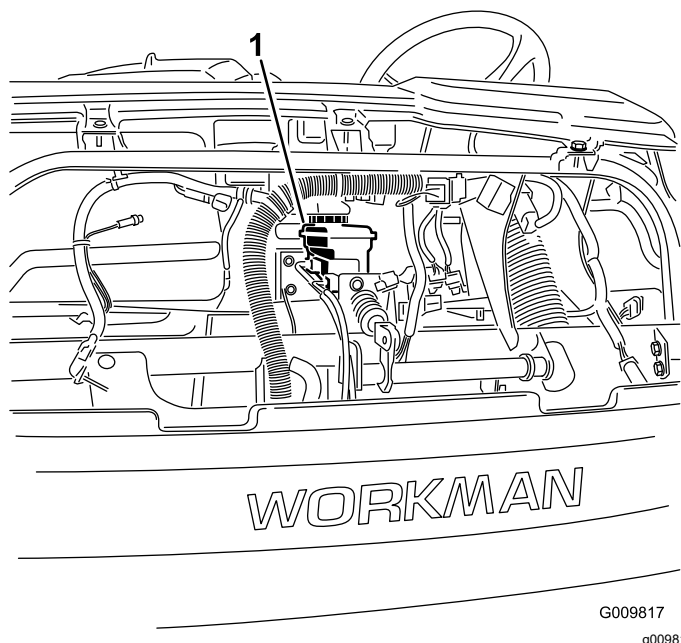

Figure 54
4. Raise the hood to access to the master brake cylinder and reservoir (Figure 54).